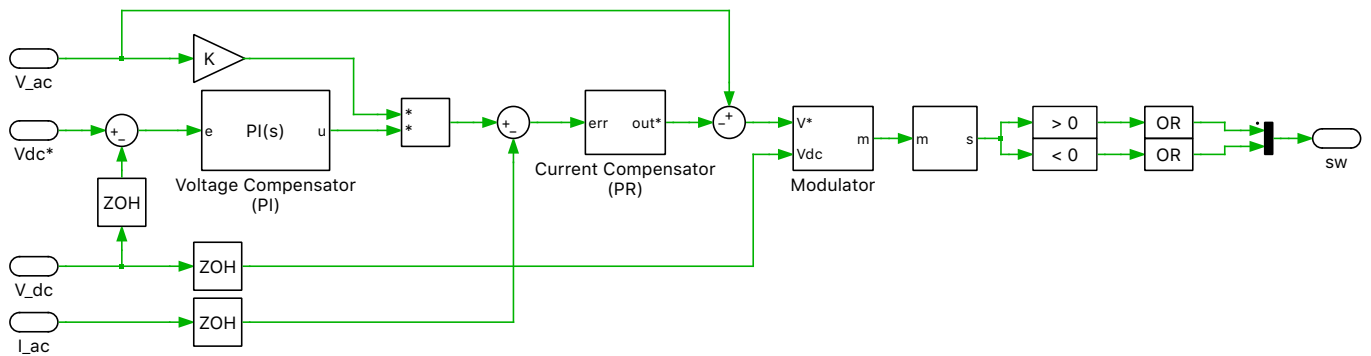

Figure 4: Totem-Pole Bridgeless Boost PFC Converter Controls
As Fig. 4 above depicts, the control scheme is composed of two loops - an outer voltage loop and an inner current loop. The error signal obtained by comparing the measured output voltage (DC) against a voltage setpoint is given to the outer loop proportional-integral (PI) controller for voltage compensation. The voltage loop output is multiplied by the input voltage signal (AC) to generate the current reference. The inner loop proportional-resonant (PR) controller [3] controls the input current to follow